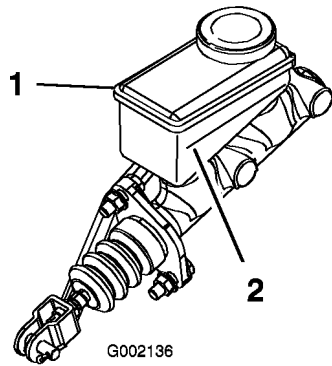

Figure 50
2. Look at the side of the reservoir. The level should be above the Minimum line (Figure 50). If the fluid level is low, clean the area around the cap, remove the cap, and fill the reservoir to above the Minimum line. Do not overfill.